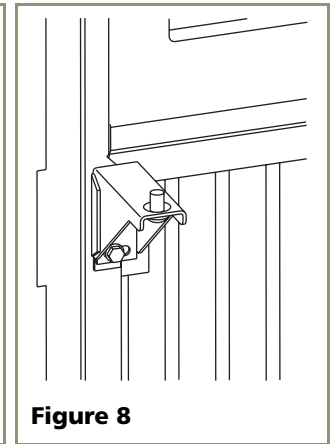

Figure 8
5. Install hinge on opposite side, bottom of cabinet. See **Figure 8**. Replace nut on back side where installed. Align hinge outer edge with cabinet before tightening screws.